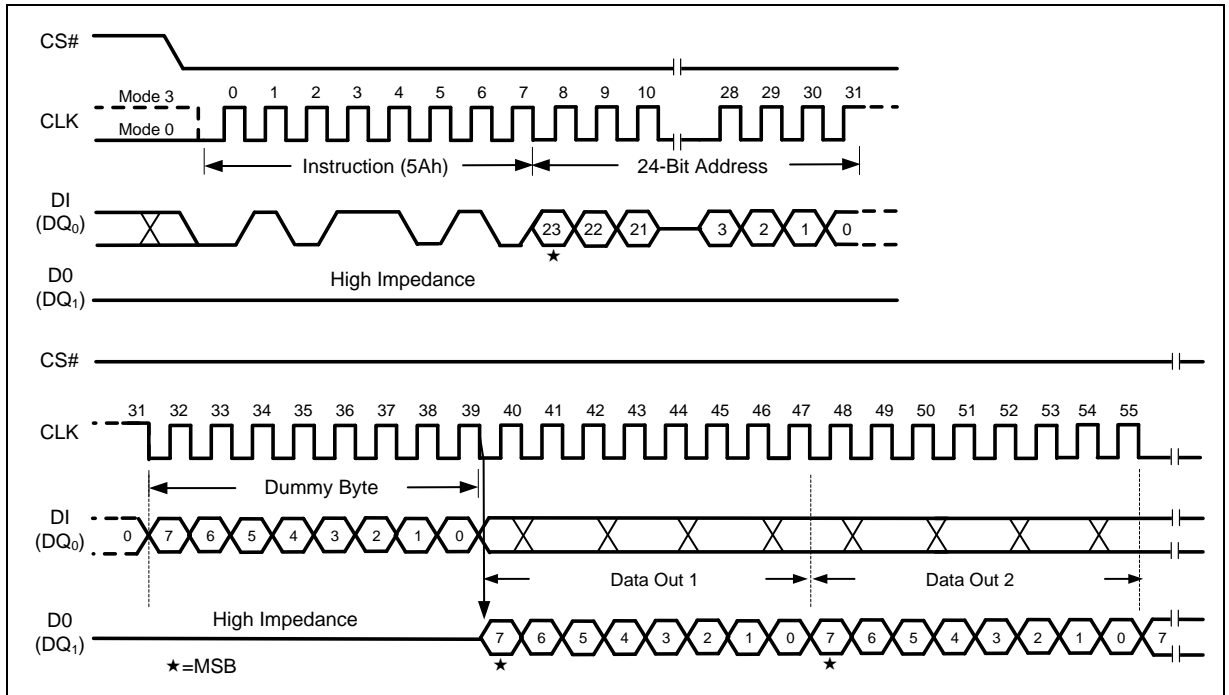

Figure 58 Read SFDP Register Instruction
The Read SFDP instruction is initiated by driving the /CS pin low and shifting the instruction code “5Ah” followed by a 24-bit address (A23-A0)(1) into the DI pin. Eight “dummy” clocks are also required before the SFDP register contents are shifted out on the falling edge of the 40th CLK with most significant bit (MSB) first as shown in Figure 58. For SFDP register values and descriptions, refer to the following SFDP Definition table.